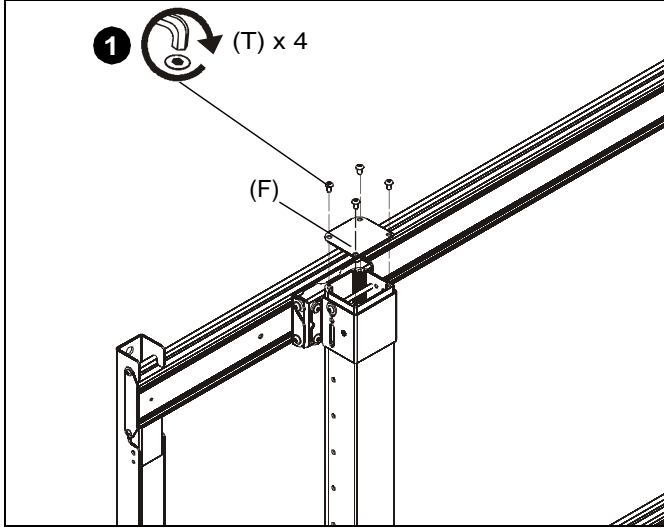

Figure 10
1. Use four 5/16-18 x 1/2" button head cap screws (T) to install each column cap (F) to each column. (See Figure 10)